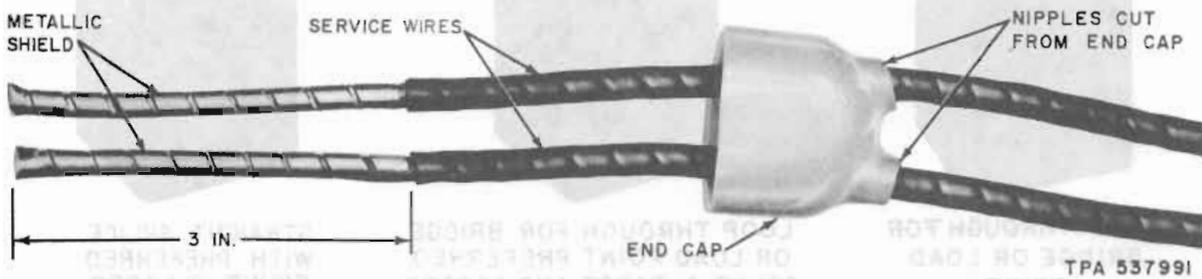

Fig. 26—Prepared Service Wire—Pee Wee Closure
(1) Cut nipples from one end cap, slip over the ends of the service wire, and remove 3 inches of the outer PVC jacket from the service wire (Fig. 26).